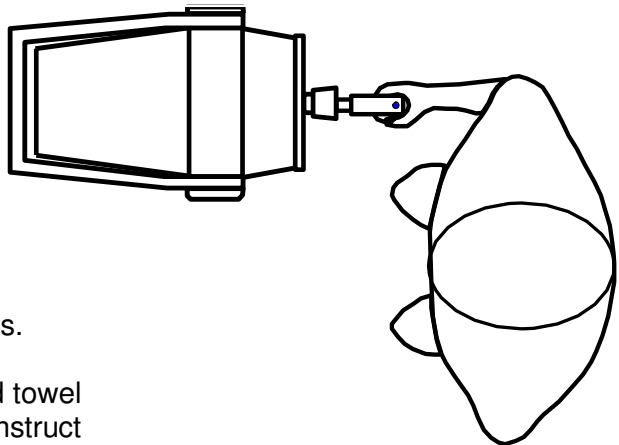

Figure 1
4. Position the subject directly in front of and facing the exercise head. It will be necessary to ask the subject to step off to the side to allow the forearm of the extremity being tested to be in direct line with the exercise head shaft (see Figure 1).